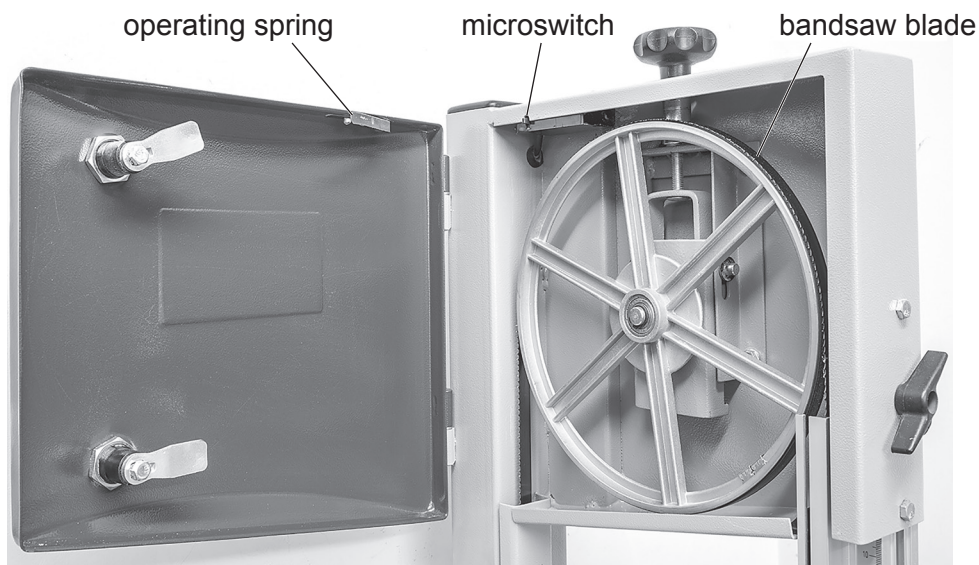

Fig. 7.1
- 7 Fig. 7.1 shows a microswitch inside the casing of a bandsaw.